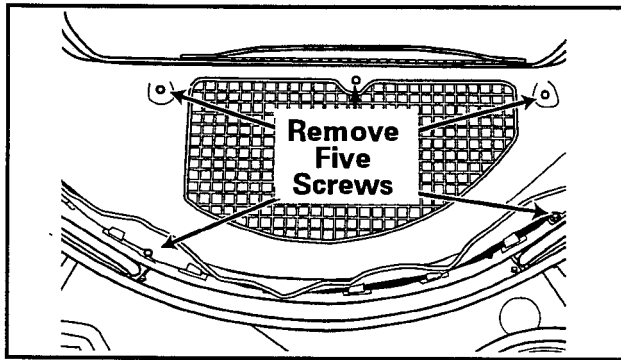

Figure 6-3
3. Remove the four 1/4" hex head screws and the one cross recess countersunk screw securing the outlet duct to the tumbler front. **Note: Two of the hex head screws are hidden under the felt seal. Pull the outlet duct free from the tumbler front, (See Figure 6-3).**